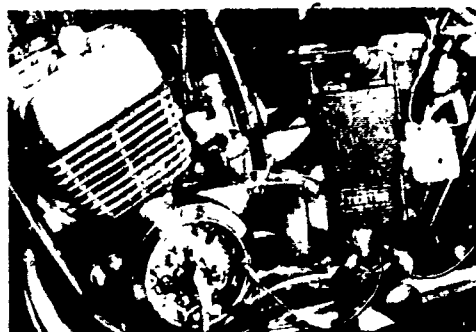

FIGURE 4
6. Connect one lead of the continuity tester to the primary terminal and the other lead to ground (Figure 4)